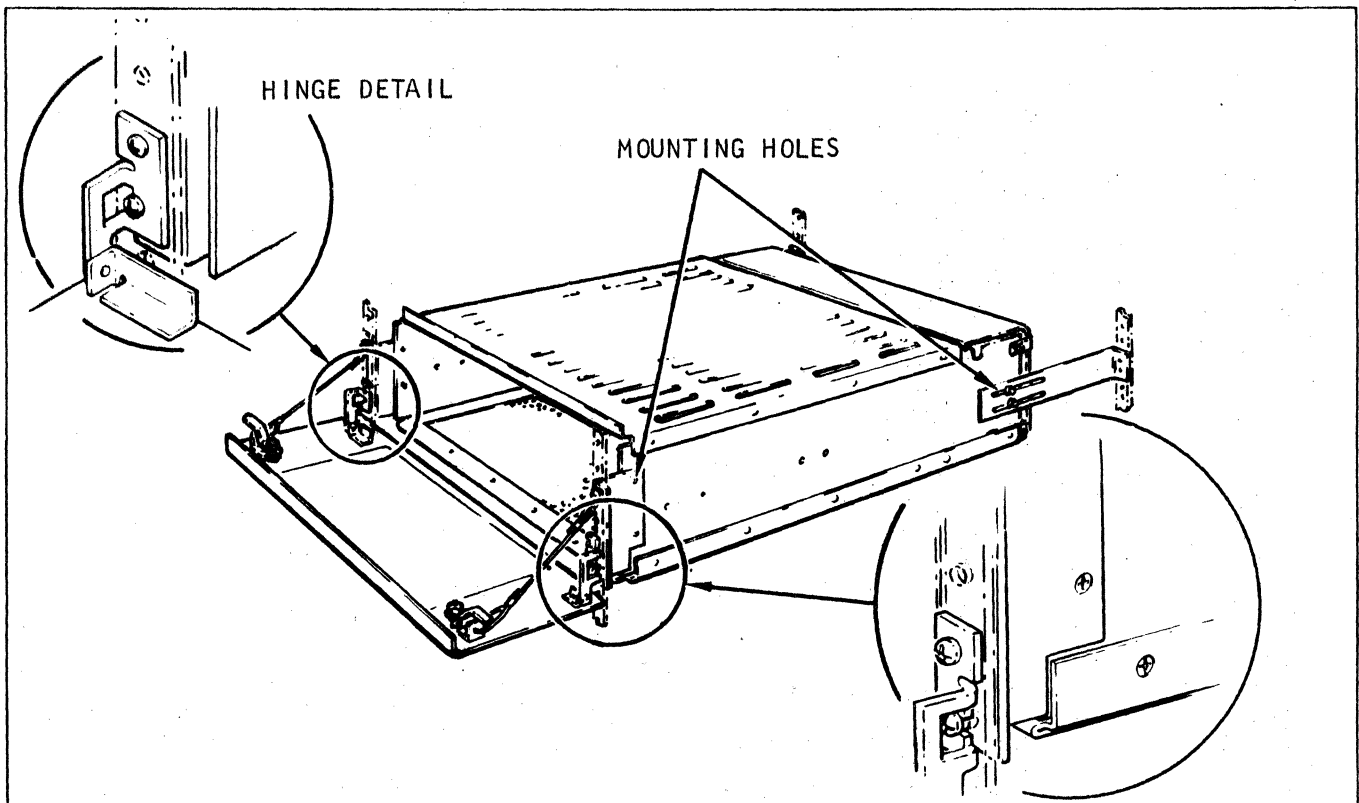

Figure 2-1. Installation, 13-505 Amplifier Mounting Assembly
- a. Remove the door and hinges from the mounting assembly (see figure 2-1). Loosen the screws attaching the rear mounting brackets.